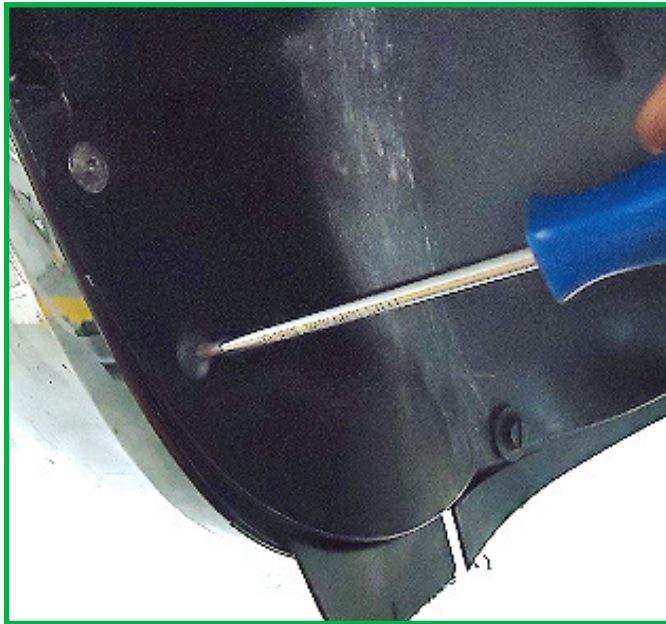

FIGURE 5
4. Locate and remove the screws from the inner fender well. (Figure 5)